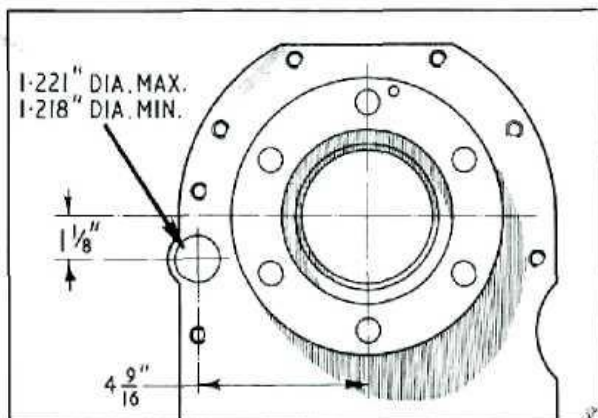

Fig. J.15 — End Plate Modification.
1. Drill a hole through the End Plate in the position shown in Fig. J.15. The hole size as shown is that which is used in the factory to ensure a tight fit on the cup plug (32588).